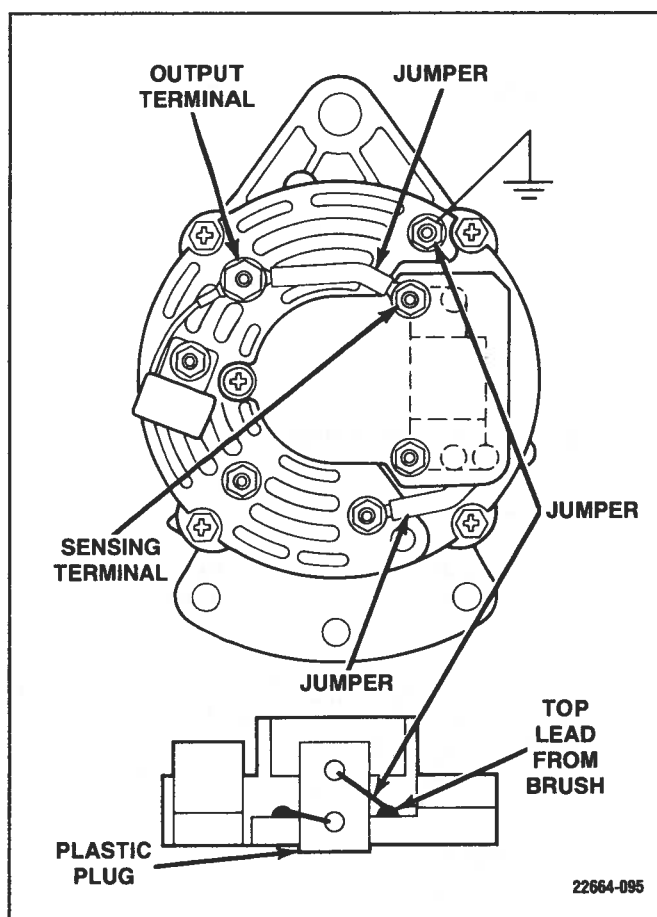

Figure 6-121. End View Of Regulator With Cover Removed
- h. Connect a jumper between top brush lead from brush and ground. (Figure 6-121)